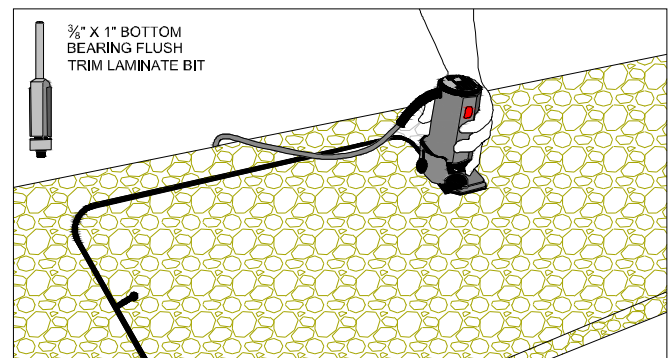

Figure 6D
- Use a laminate trim router with a $\frac{3}{8}$ " bottom bearing flush trim bit, route around the inside of the sink cutout. (FIG. 6D)